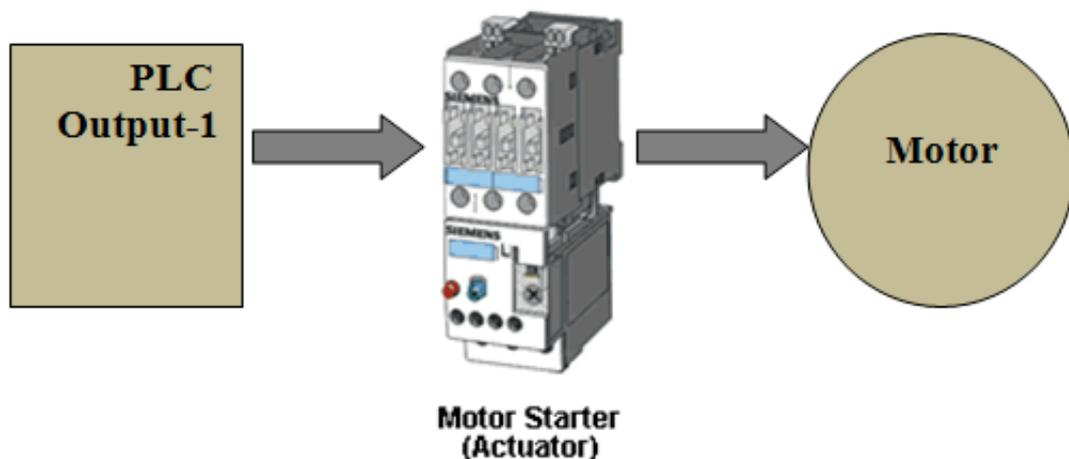

Figure 2.17: Actuator Example
**Actuators** convert electrical signals from PLC outputs into physical conditions. A motor starter (in fig 2.17) is an example of an actuator. It will either start or stop the motor depending on the state of the PLC output.